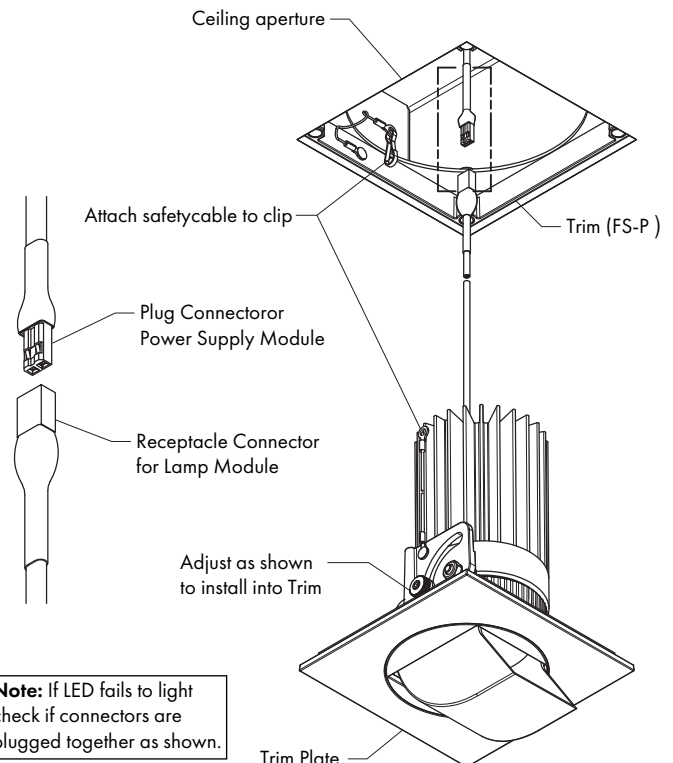

FIG 11.4 Securing Lamp Module to Housing & Trim
STEP 3 Plug Wire Connector from Lamp Module into Power Supply Module Connector. Push wire up inside Housing to avoid interference during installation - **FIG 11.4**.